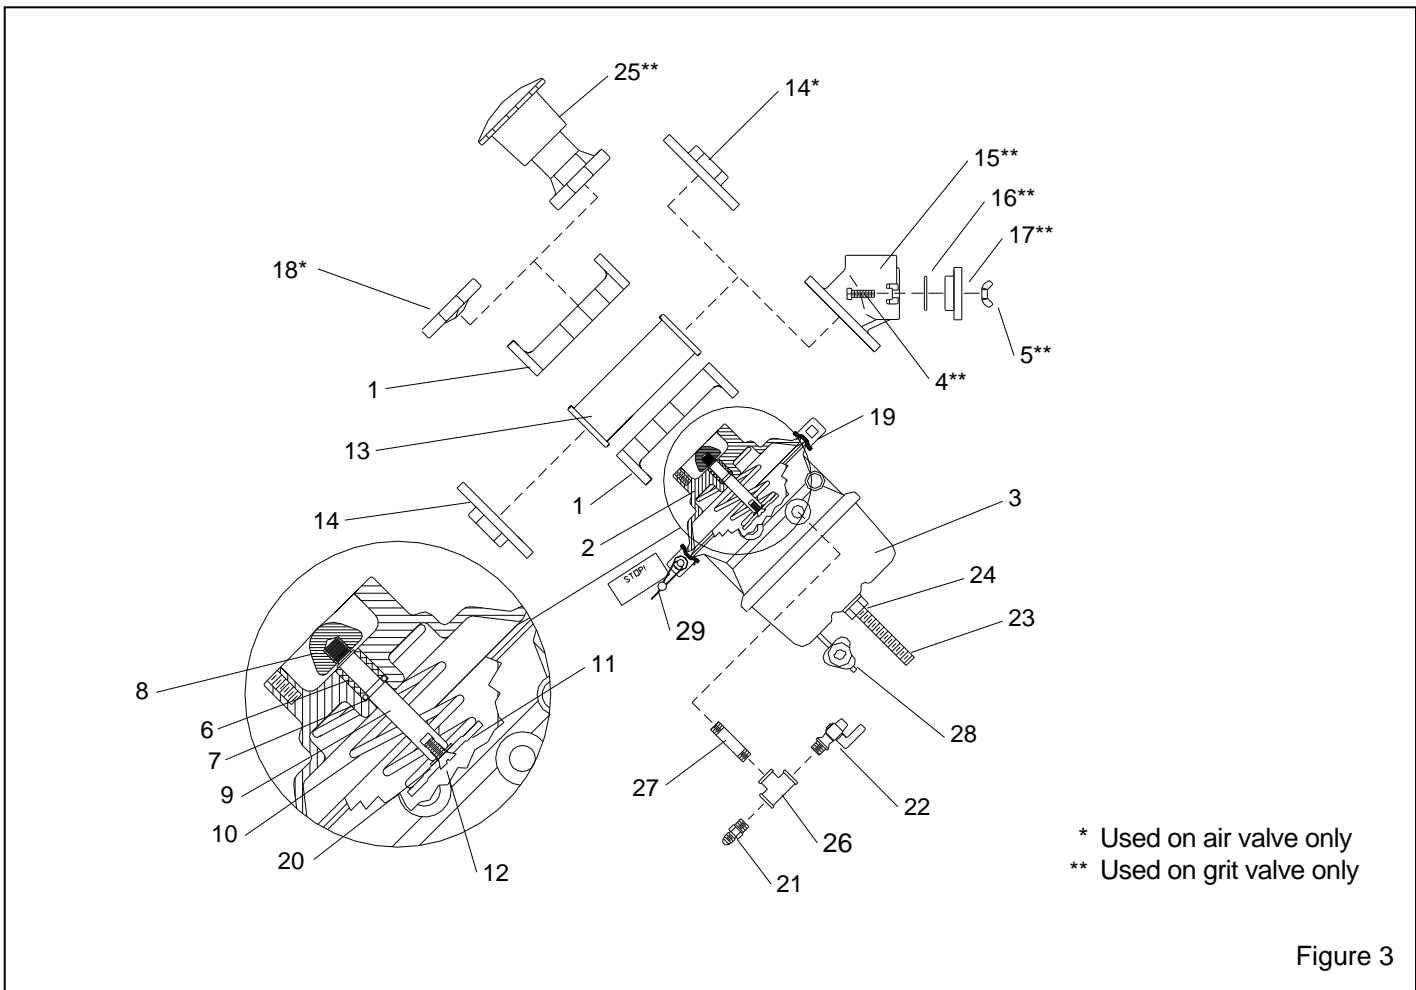

Figure 3
5.1 Pinch Tube Valve Assembly, Figure 3